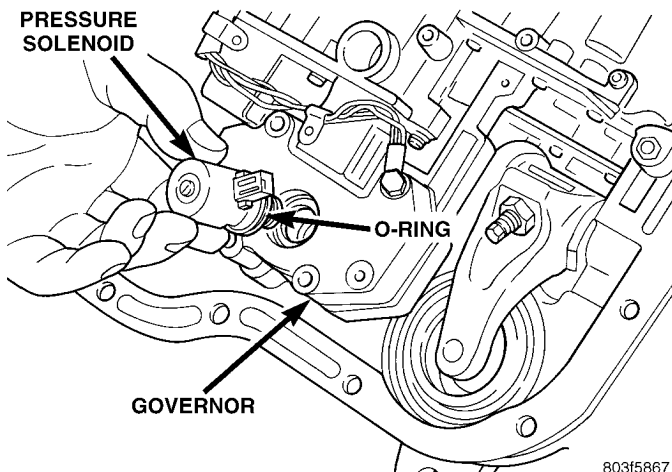

Fig. 96 Governor Pressure Solenoid
(5) Install governor pressure solenoid in governor body (Fig. 96). Push solenoid in until it snaps into place in body.